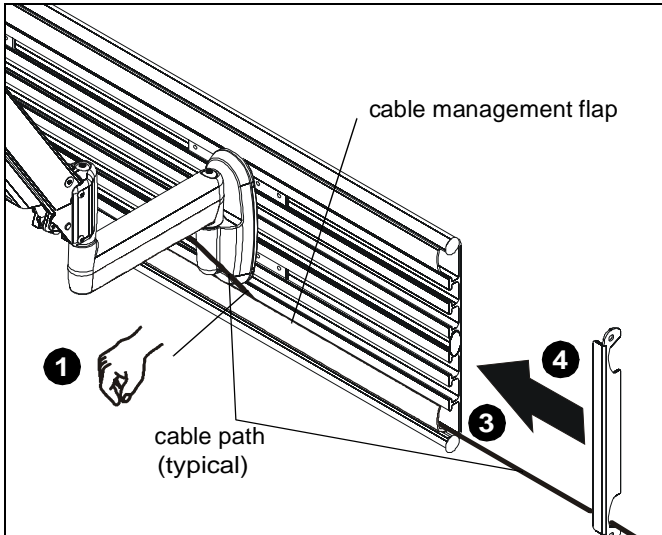

Figure 46
7. Tuck cable inside cable management flap. (See Figure 46)
9. Pull cable through cable management flap until cable outlet plug extends outside the wall track accessory. (See Figure 46)
10. Reinstall side cover making sure the cable runs through the cable hole. (See Figure 46)